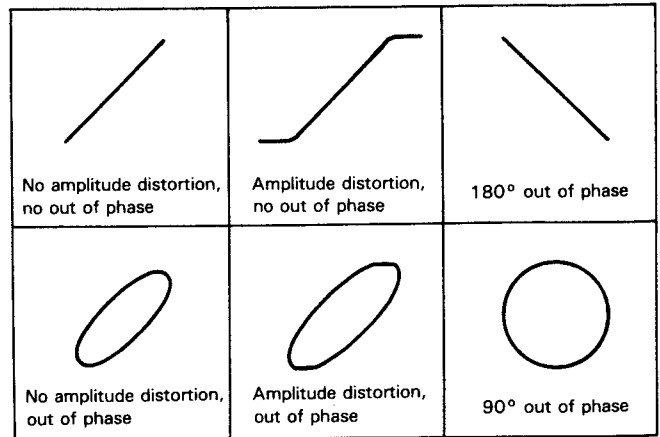

Fig. 43 Typical phase measurement oscilloscope display
7. Some typical results are shown in Fig. 43.